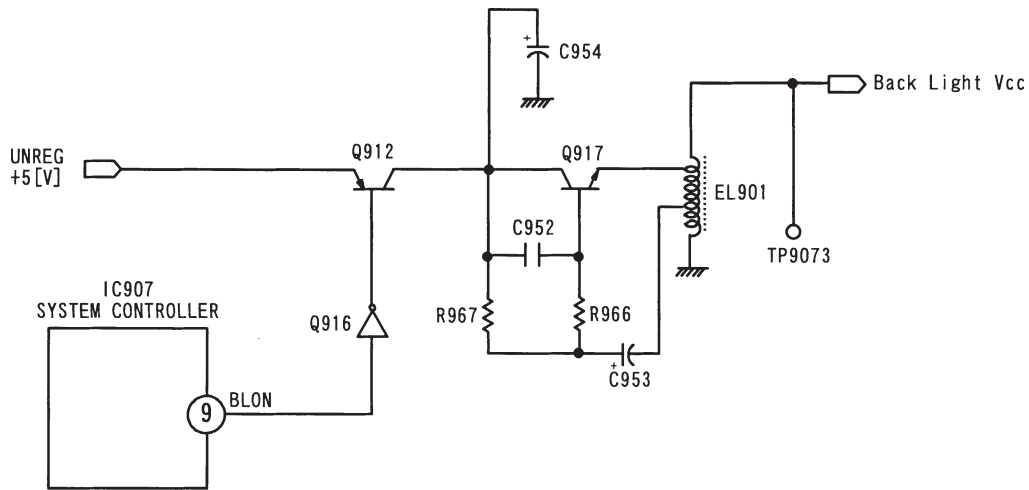

Fig. 3-15 Block diagram of the LCD backlight illuminating circuit
Fig. 3-15 shows the block diagram of the LCD backlight illuminating circuit. When the LCD backlight is turned on, “H” is output from the system controller IC907 pin⑨ [BLON]. This “H” signal turns on Q916, Q912 and Q917 so that the UNREG +5 V is supplied to EL901. Then high frequency signal is generated by the transformer EL901 and supplied to the EL element of the LCD block so that the EL element illuminates.